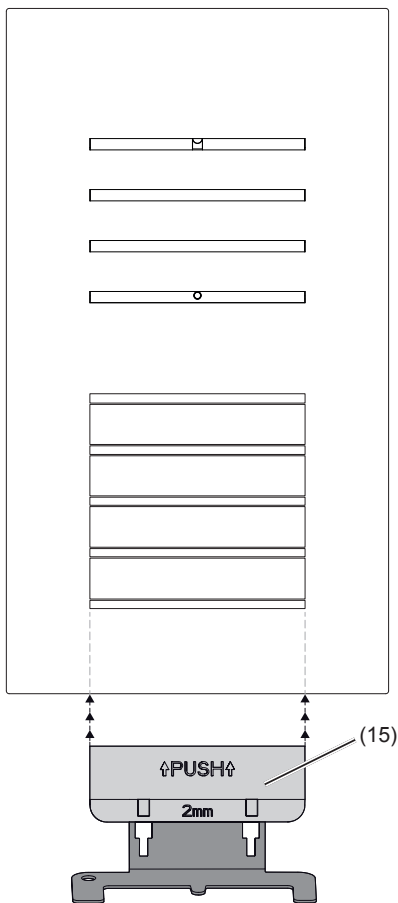

Figure 15: Disassembling the door station
- Position the opening tool (15) at the bottom in the middle and press up (Figure 15).